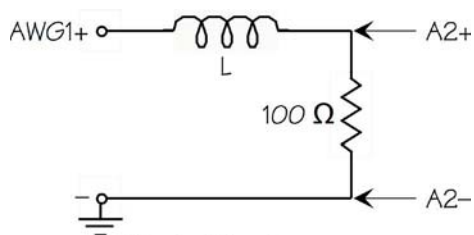

Fig. 1—Circuit setup
2. Build the circuit of Fig. 1 and connect it to the IO Board as shown.